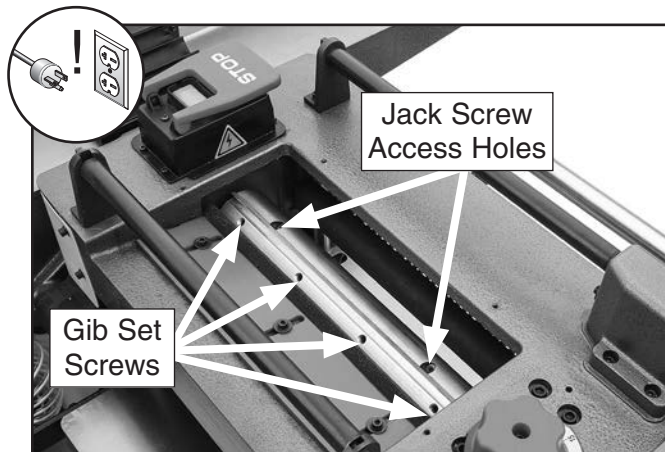

Figure 58. Planer cutterhead jack screw access holes.
5. Insert hex wrench into jack screws through access holes in cutterhead (see **Figure 58**). Rotate jack screws to raise or lower knife until it barely touches center pad of knife-setting jig with all legs of jig still firmly on cutterhead, then snug gib set screws enough to hold knife in place.